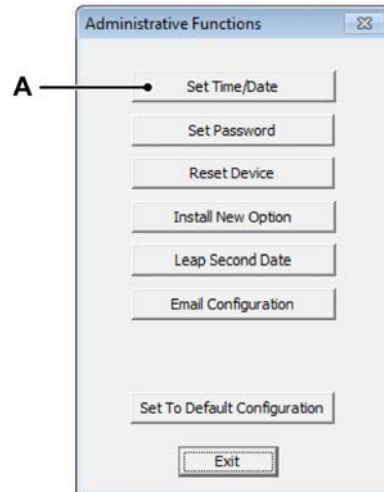

Figure D.26: Administrative Functions - GMR1000
- 9 Edit the date by clicking on the **Set Time/Date** button in the **Administrative Functions** dialog (see Figure D.26).